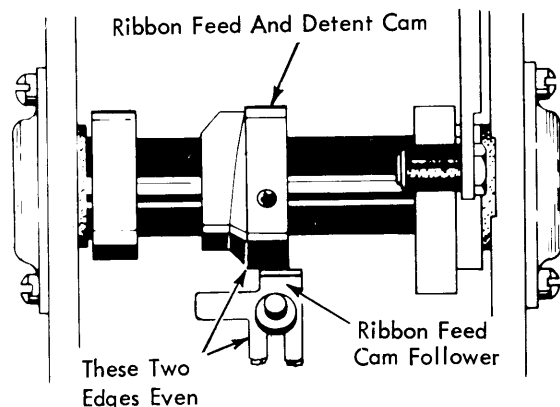

FIGURE 40. Ribbon Feed Cam
- a. Position the ribbon feed and detent cam left or right on the print sleeve so that the inside rib of the cam will be in line with the left hand edge of the ribbon feed cam follower (Fig. 40).